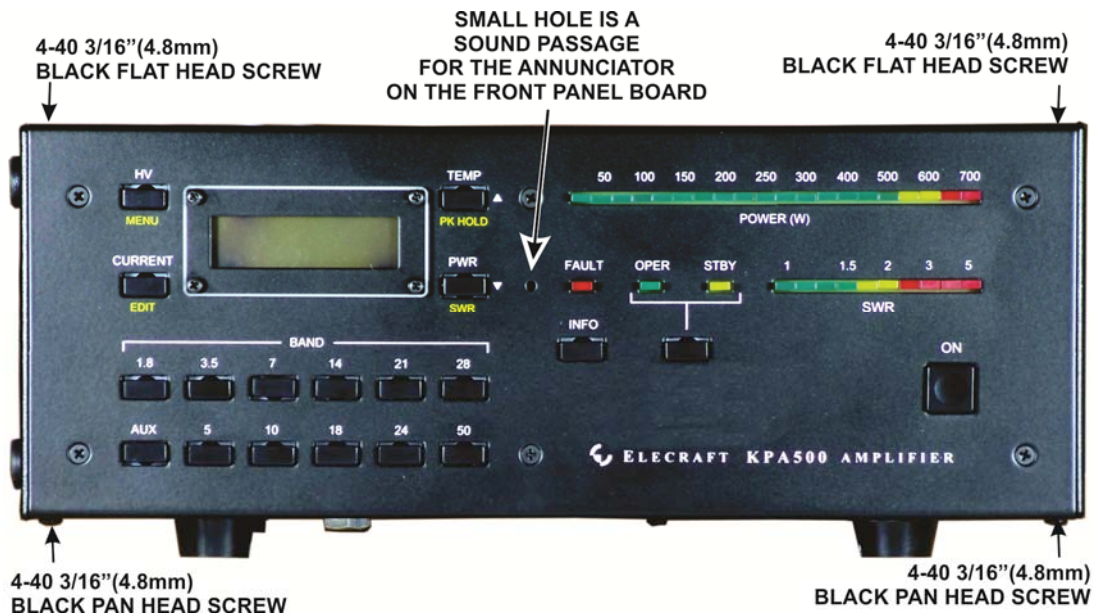
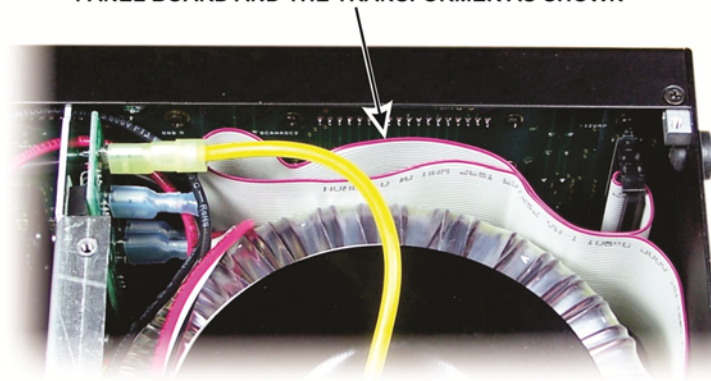

Figure 60. Mounting the Front Panel Assembly on the KPA500.
Figure 61. Routing Long Ribbon Cable.
□ Mount the front panel assembly on the KPA500 as shown in Figure 60. If the wide ribbon cable is longer than necessary loop it back and forth behind the front panel board in the space directly in front of the power transformer as shown in Figure 61. The front panel fits between the side panels. If the fit is too tight, loosen some of the screws near the front on the side panels, particularly on left side panel since it is less rigidly held in place. Be sure to tighten all the screws after the assembly is in place.